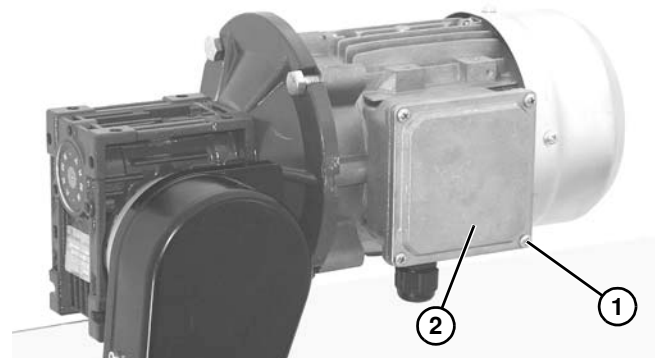

Figure 23
1. Loosen terminal box screws (Figure 23, item 1) and remove cover (Figure 23, item 2).